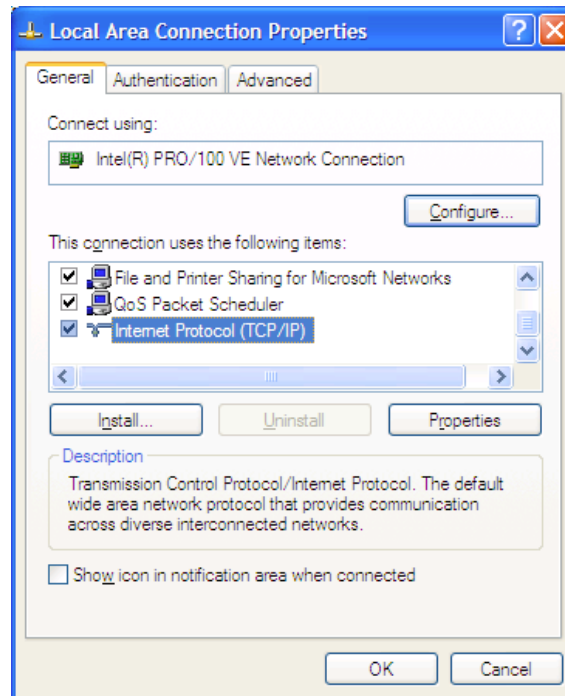
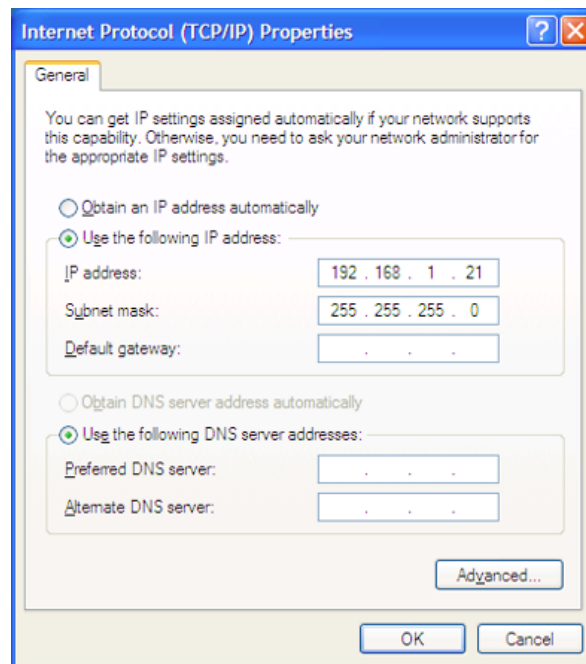

Figure 5. The Local Area Connection Properties Dialog
Figure 6. The Internet Protocol Properties Dialog
3. In the **Local Area Connection Status** dialog box, click the **Properties** button. The **Local Area Connection Properties** dialog box appears (Figure 5).
4. In the panel labeled **This connection uses the following items:**, select the **Internet Protocol (TCP/IP)** item to highlight it, and click the **Properties** button (Figure 5). The **Internet Protocol (TCP/IP) Properties** dialog box appears (Figure 6).
5. Enter values for the IP address and subnet mask to match those shown in Figure 6. Leave any remaining fields blank. In this example, an IP address of 192.168.1.21 and a subnet mask of 255.255.255.0 are being assigned to the PC. These values place the PC on the same network as the ZPAK II unit, and do not conflict with the IP address of ZPAK II.